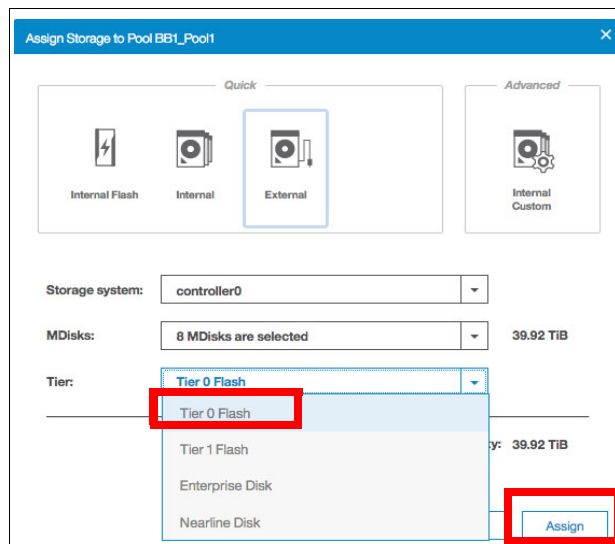

Figure 4-54 Select Tier 0 Flash and Assign storage to the pool
7. There is also the ability to classify the tier of storage being added to the pool. The AE3 is considered Tier 0 Flash storage. Ensure that **Tier 0 Flash** is selected, as shown in Figure 4-54. Select **Assign** to complete the task.